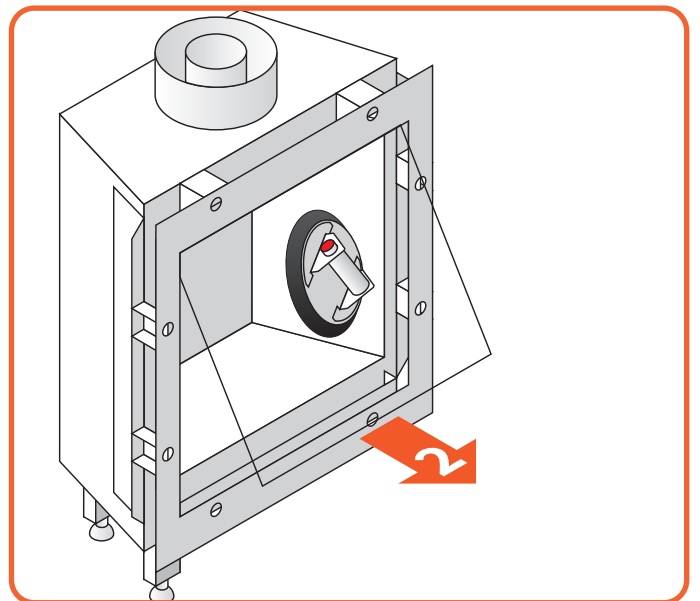

Figure 9.6 | Carefully tilt out the glass
- Put the section cup on the glass and make sure it is properly vacuumed, so it will not come off. (See Figure 9.6)